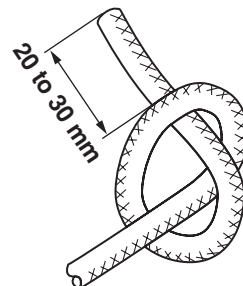
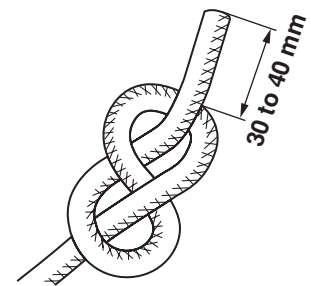

Fig. 11-4-1
Fig. 11-4-2
- (1) First, have the starter rope pass through the starting knob, and tie the rope as shown in Fig. 11-4-1.
Then, have the opposite side of the rope pass through the starter case and the reel, and tie it as shown in Fig. 11-4-2. Then surely house the end in the reel. (In the 11-4-1 and 11-4-2 both the ropes are tied quite lightly, as you see in figures 11-4-1 and 11-4-2. Please note this is just for the purpose of easy understanding. Therefore, when actually tying, tie the rope as tightly as possible.